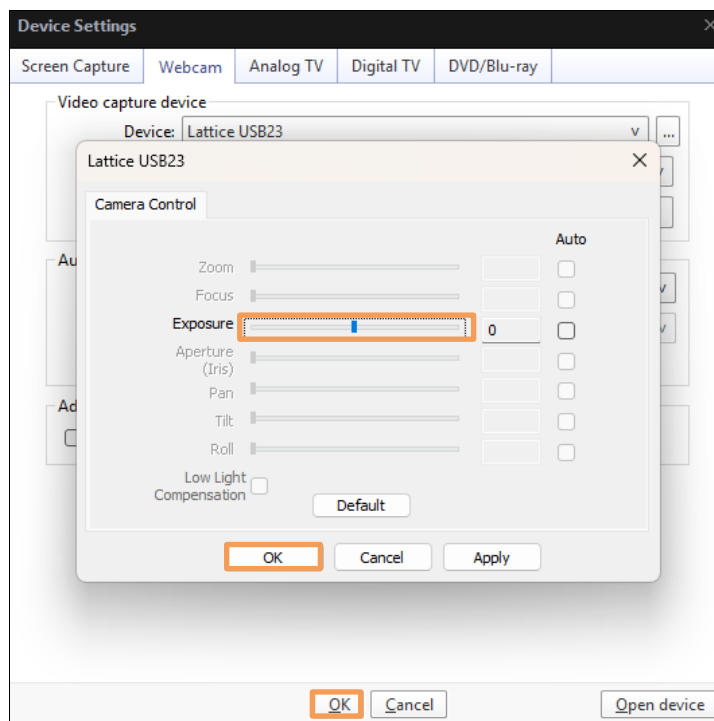

Figure 7.8. Camera Control Menu in PotPlayer 2
6. (Optional) In the **Camera Control** menu, adjust exposure using the slider. Then, click **OK** to confirm (Figure 7.8).